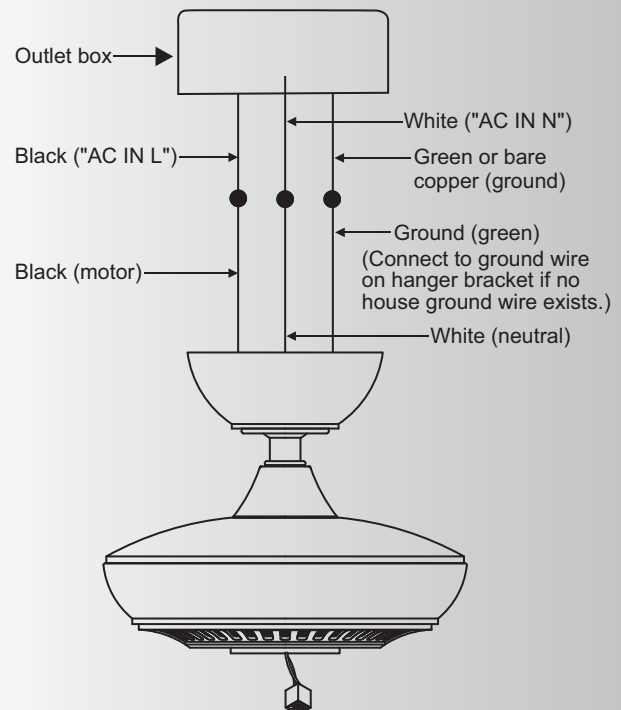

Fig. 12
Step 1. Connect the fan supply (black) wire to the black household supply wire as shown in Figure 12.